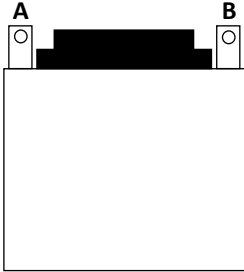

Fig 11
1. The motor is fixed to the wall using the L brackets supplied. Screw the motor to the L brackets and attach through A & B points to the wall (Fig 11).